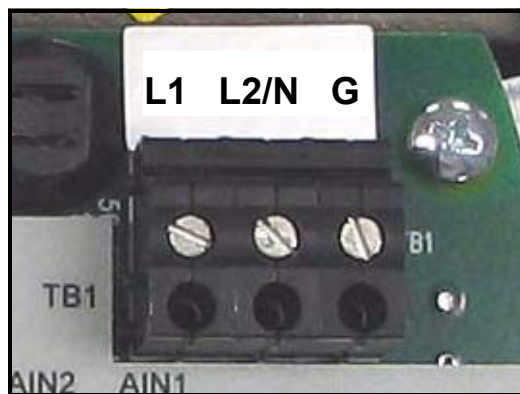
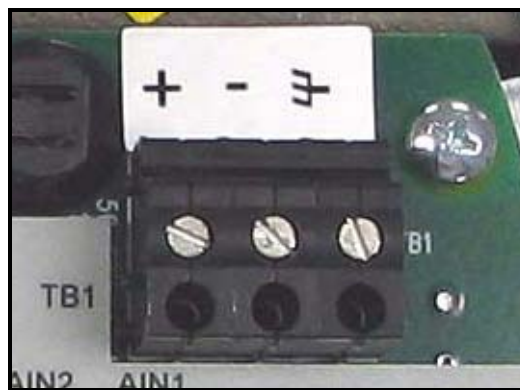

Figure 20: Wiring the AC Line Power
Figure 21: Wiring the DC Line Power
See Figure 20 on page 40 to locate terminal block TB1 and to connect the line power as outlined below:
2. Route the cable through one of three conduit inlet ports (see Figure 19 above) and connect the line power leads to terminal block TB1, using the pin number assignments shown in Figure 34 on page 52 and Figure 20 or Figure 21 on page 40.
3. Run the AC power connections to the Power Terminal Block shown in Figure 20 below. It is recommended to use 12-18 AWG (3.3 - 0.82 mm2) power wiring.
5. Route the cable through the chosen conduit hole and connect the line power leads to terminal block TB1, using the pin number assignments shown in Figure 35 on page 53 and Figure 20 or Figure 21 below.